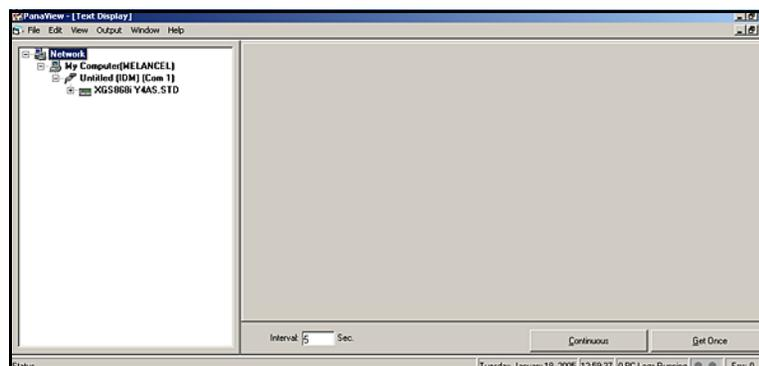

Figure 19: The Text Display Window
2. Using the *Window* menu, as described in the *PanaView User's Manual*, arrange the open windows in the desired format. For this discussion, Figure 19 below shows the *Text Display* window in its maximized (full-screen) size.
5. Before actual data values can be displayed in the text pane, activate one of the following data collection modes (see *Figure 19 on page 48*):